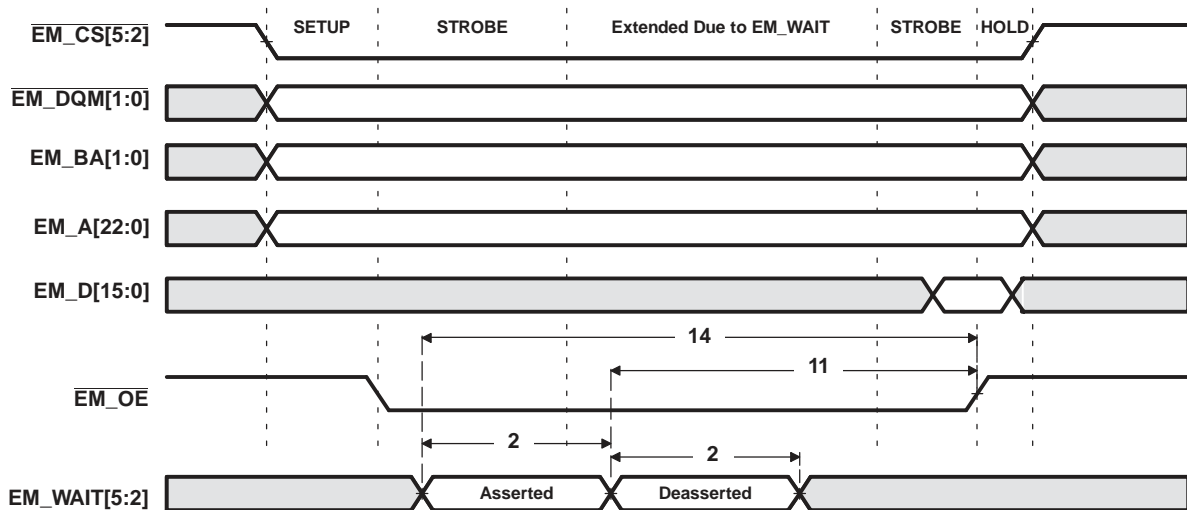
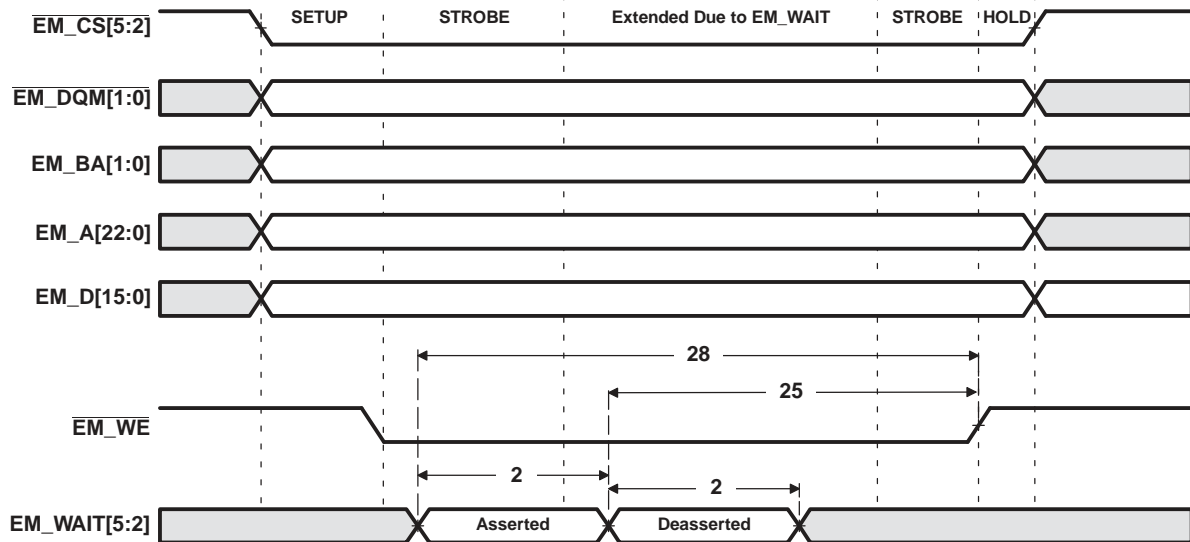

Figure 7-24. EM_WAITx Read Timing Requirements
Figure 7-25. EM_WAITx Write Timing Requirements
(1) E = SYSCLK3 period in ns for EMIFA. For example, when running the DSP CPU at 594 MHz, use E = 6.734 ns.
(2) Setup before end of STROBE phase (if no extended wait states are inserted) by which EM_WAITx must be asserted to add extended wait states. Figure 7-24 and Figure 7-25 describe EMIF transactions that include extended wait states inserted during the STROBE phase. However, cycles inserted as part of this extended wait period should not be counted; the 4E requirement is to the start of where the HOLD phase would begin if there were no extended wait cycles.